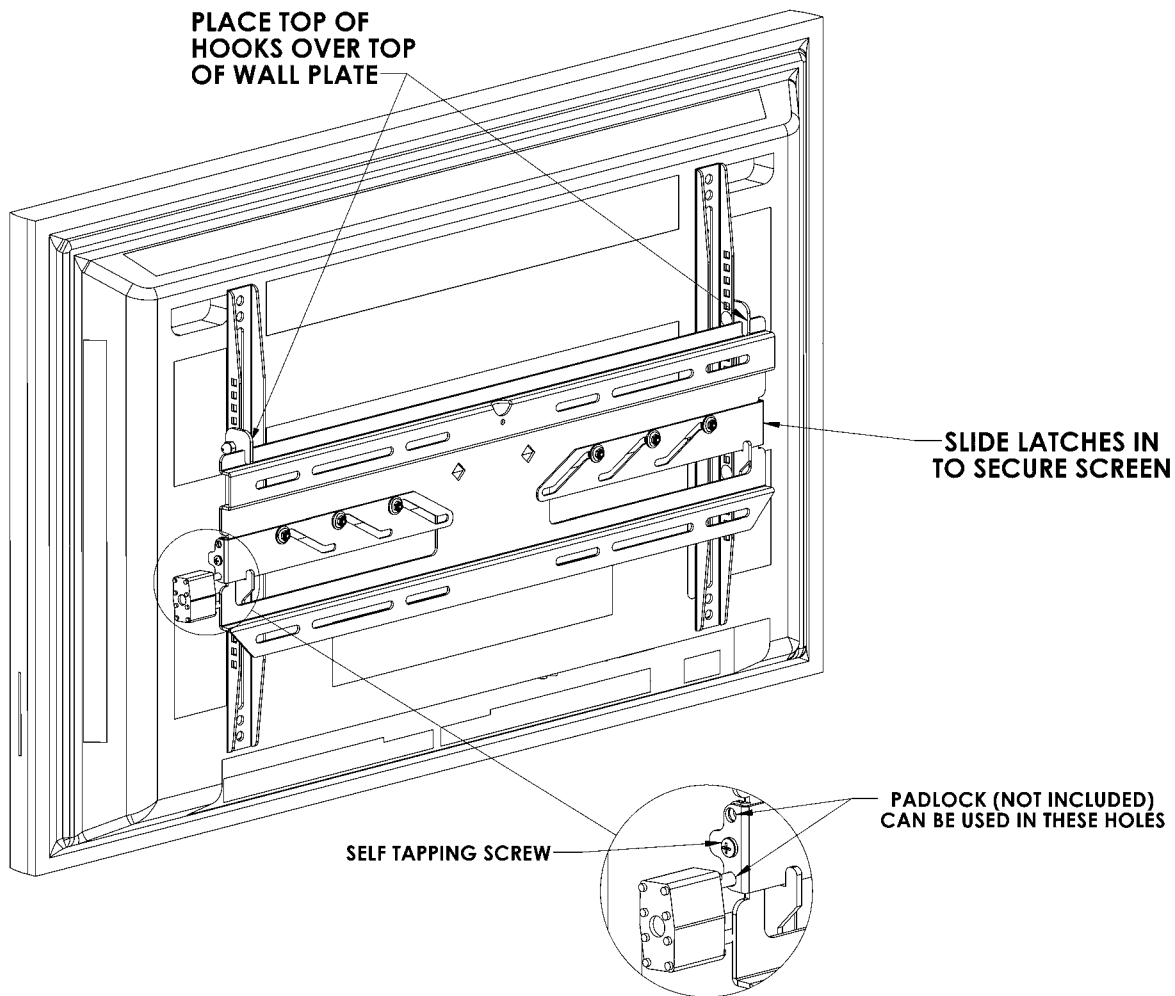

Figure 9. Install Display
1. Place the display on the wall plate (10) by hooking the hooks of the brackets (20 and 30) in the top of the wall plate (see Figure 9).
2. Secure the display by sliding the latches, one on each side, inward (see Figure 9).
3. If desired, install self tapping screws (230) and/or padlocks (not provided) for additional security (see Figure 9).